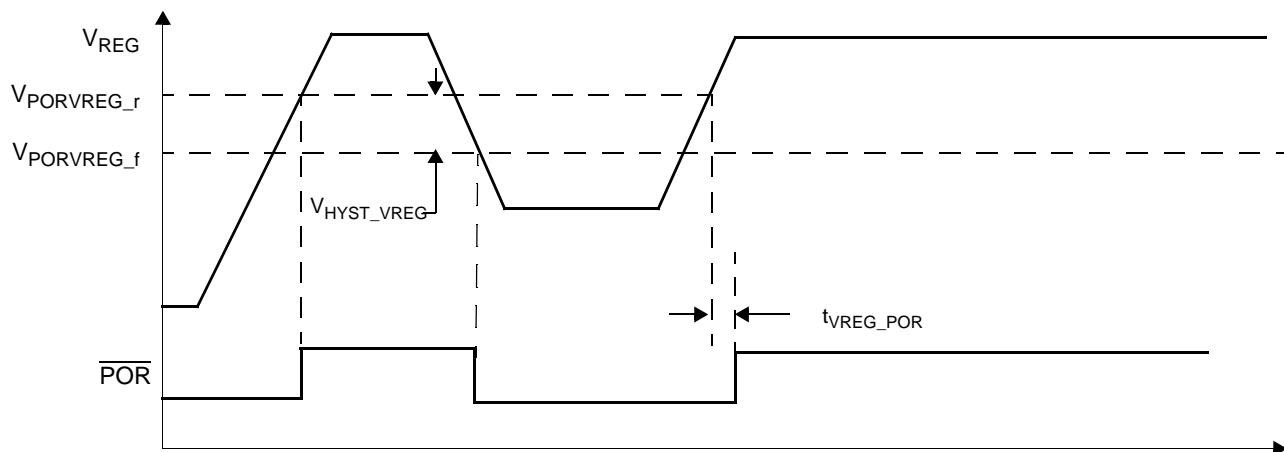

Figure 6. V_{REG} Under-Voltage Detection
| 84 | V_{REG} Under-Voltage Reset Delay (See Figure 6) $V_{REG} < V_{PORVREG_f}$ to POR assertion | t_{VREG_POR} | — | — | 5 | μ s | (3) |